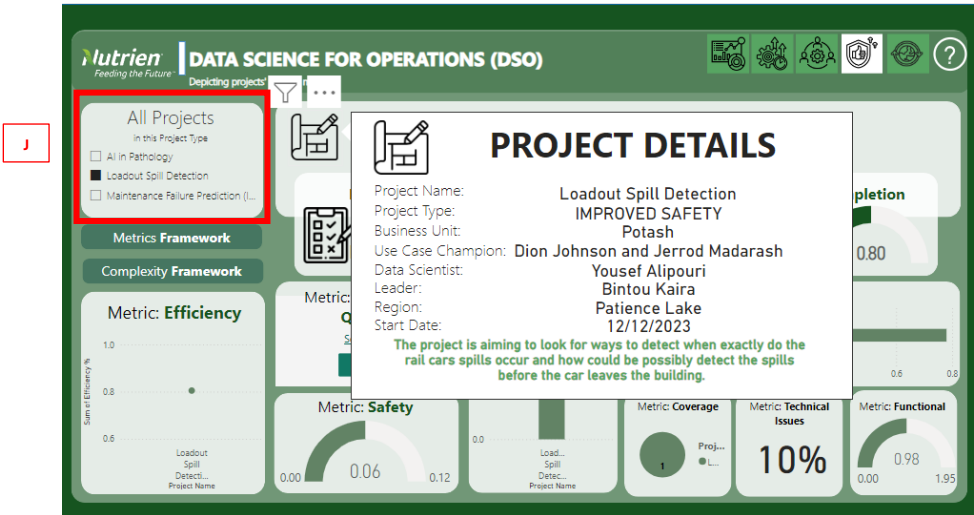

Figure 7 The display of (I) upon hovering on the icon to generate a visual display of tooltip (G).
Going back to display (I), when a project is selected from the checkbox on the top left-hand corner of the display, details of the project can be verified with the help of the tooltip (G). This is depicted with the Figure 7 as we have picked a project named “Loadout Spill Detection” from our list (J). This tooltip allows the user to have basic information about the project which includes the project name, the project type, the business unit, use case champion, data scientist and the leader involved. The green bolded text includes the brief description of the project in a concise manner.